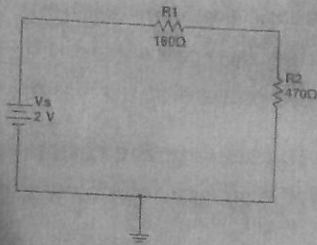

Figure 1: Resistor Circuit
6. Connect the circuit in Figure 1.